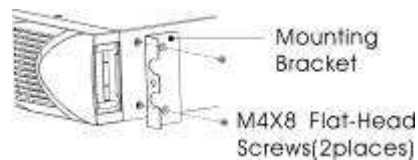

Figure6 Installing the Mounting Brackets
9. Align the mounting brackets with the screw holes on each side of the UPS and fix with the supplied M4×8 flat-head screws(see Figure 6)